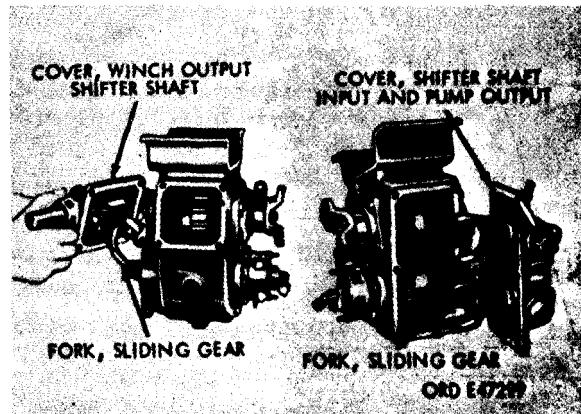

Figure 511. Case covers and shifter shafts removed
- (3) Remove and disassemble case covers.
- (a) Remove four hex-head cap screws and takeoff winch, output shifter shaft cover (fig. 511), and cover gasket.
- (d) The removal (fig. 511) and disassembly of the input- and pump-output shifter shaft cover is essentially the same as for the winch output shifter shaft ((a) through (c) above).